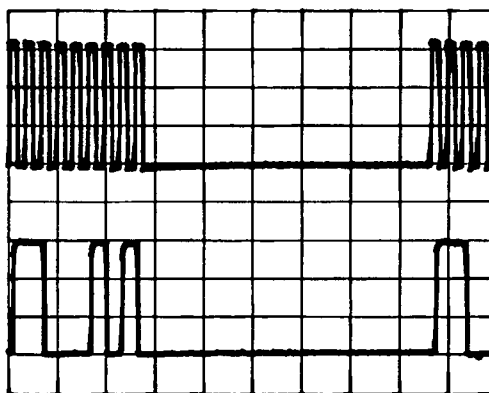

Figure 8-37. A2A10 HNR2 Test Point
23. Connect channel 2 to A2A10TP HNR2. The waveform should be as shown in figure 8-37. If the waveform is correct, proceed with step 24.